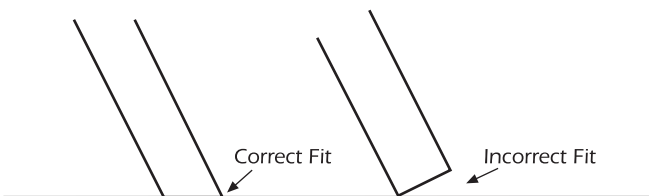

Fig. 9
Step 12- Draw a straight line between the points. Cut each bottom stringer to the proper length, along the lines drawn. The bottom section of the stairs should fit flush with the floor on both sides after cutting. (See Fig. 9)